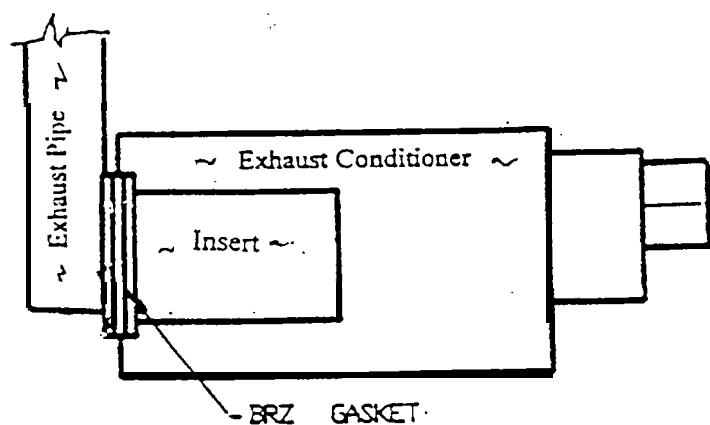

Figure 11. Gasket Between Exhaust Conditioner Flange and Scrubber Insert Flange.
22. ( ) A bronze gasket is installed between the flange of the exhaust conditioner and the flange of the scrubber insert as shown in Figure 11